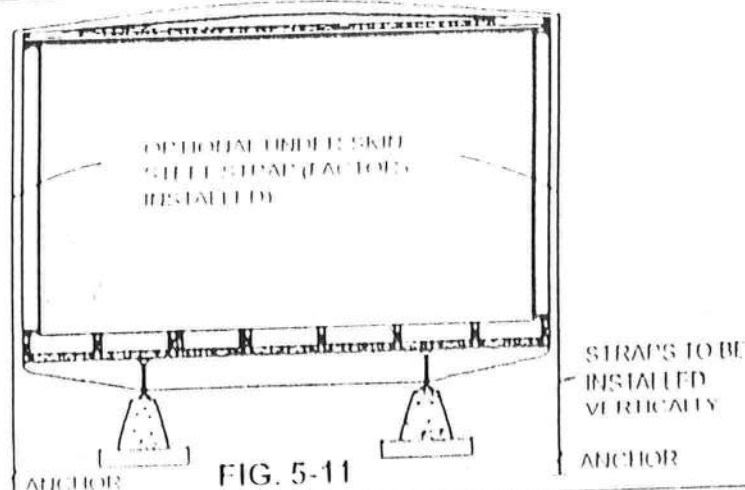

FIG. 5-11
1. Position and install the ground anchors so that the strap will be vertical after attachment to the anchor. The anchor may be installed slightly beneath the home to avoid interference with skirting (See Fig. 5-11).